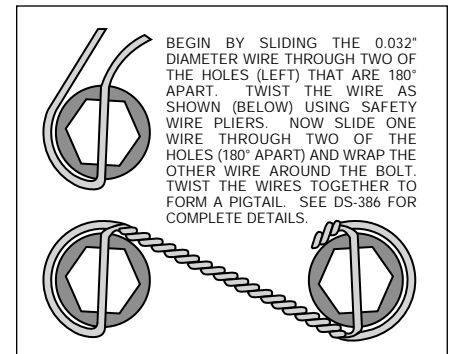

Figure 3. Safety Wire Diagram
- With the larger I.D. side of the rotor (6) facing away from the hat (8), bolt rotor (7) to hat (8) through the backside of the rotor using washers (10) and bolts (9). Torque bolts (8) in an alternating sequence to 120-144 **in-lb**. Safety wire bolts (9) using standard 0.032 inch diameter stainless steel safety wire as shown in Figure 3. Please refer to Wilwood’s data sheet DS-386 (available at www.wilwood.com/pdf/ds386.pdf) for complete safety wire installation instructions. Slide the rotor/hat assembly onto the spindle. Install a couple of wheel bolts (finger tighten) to keep the rotor/hat assembly in place while continuing with the installation.
- NOTE:** Please reference the caution statement at the beginning of the assembly instructions. Install spacer (14) and one washer (15) over each pre-installed stud (16) on the radial mount bracket (1). Slide the caliper (11) in place over the studs and rotors and install the washer (13) and lock nut (12) to hold the caliper in place. Snug the lock nuts (12) and check that the rotor (7) is centered in the caliper (11). Add or subtract .02" shims (6) as necessary between the caliper mounting bracket (1) and the spindle to center the caliper (11).
- Remove the caliper quick-clip pad retainer from the caliper. Remove the protective material from the adhesive side of the anti-squeal shims (17) and place against the backing plate side of the brake pads (18) utilizing the contour of the backing plate as a guide. Secure material to backing plate by bending the four tabs over the edge of the backing plate. Slide the brake pads (18) with the shims into place. They should install easily without interference. Check that the outside radius of the brake pad is aligned with the outside diameter radius of the rotor face. Add or subtract shims (15) between the caliper and mount bracket to gain the proper alignment. Reinstall the quick-clip pad retainer.